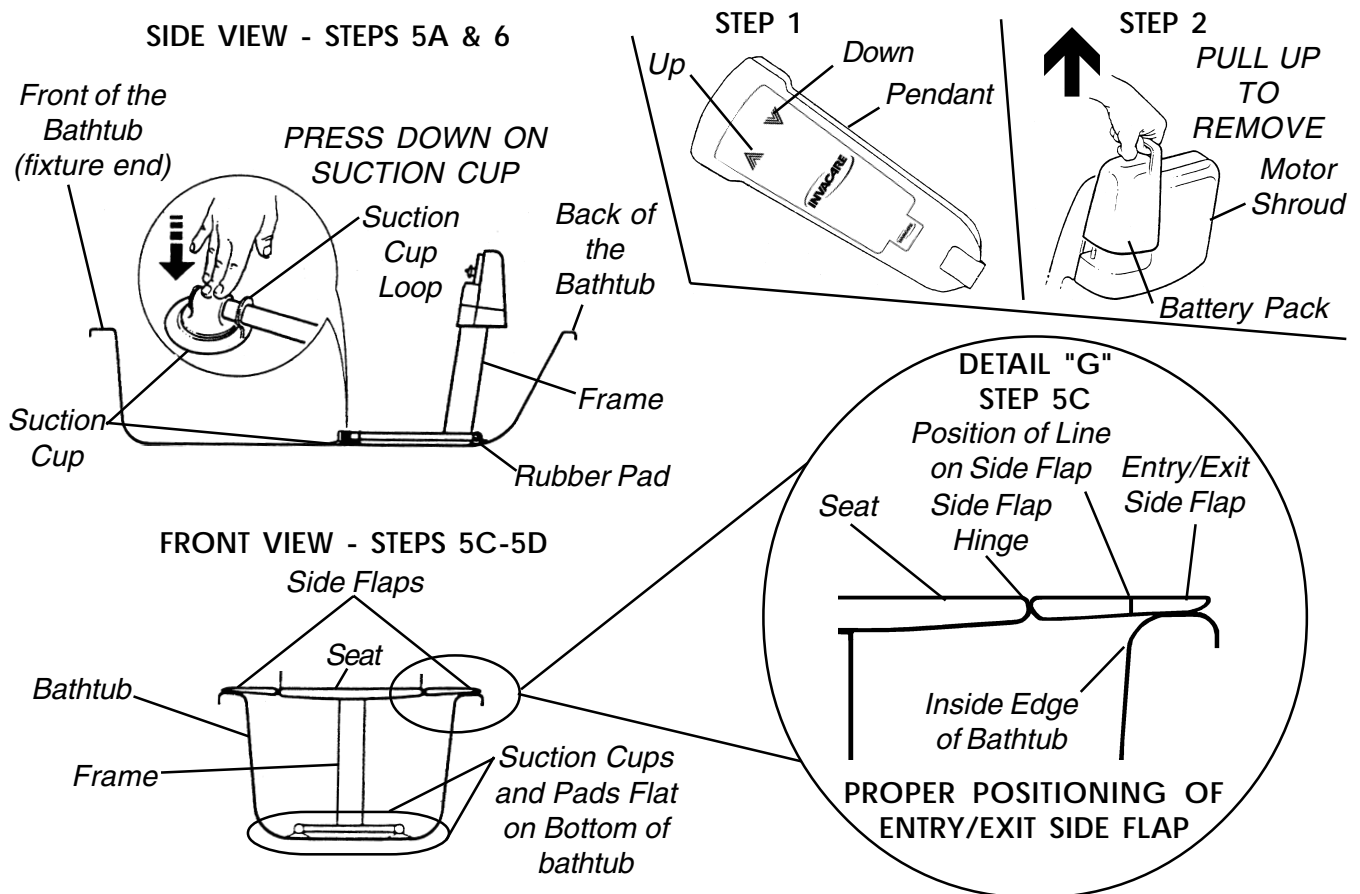

FIGURE 9 - INSTALLING THE BATH LIFT INTO THE BATHTUB
## Installing the Bath Lift into the Bathtub (FIGURE 9)
3. Grasp the handgrip on the battery pack and pull upwards to remove it from the motor shroud as shown in FIGURE 9.
- C. Position the frame to align the line on the entry/exit side flap with the inside edge of the bathtub as shown in DETAIL "G" of FIGURE 9.